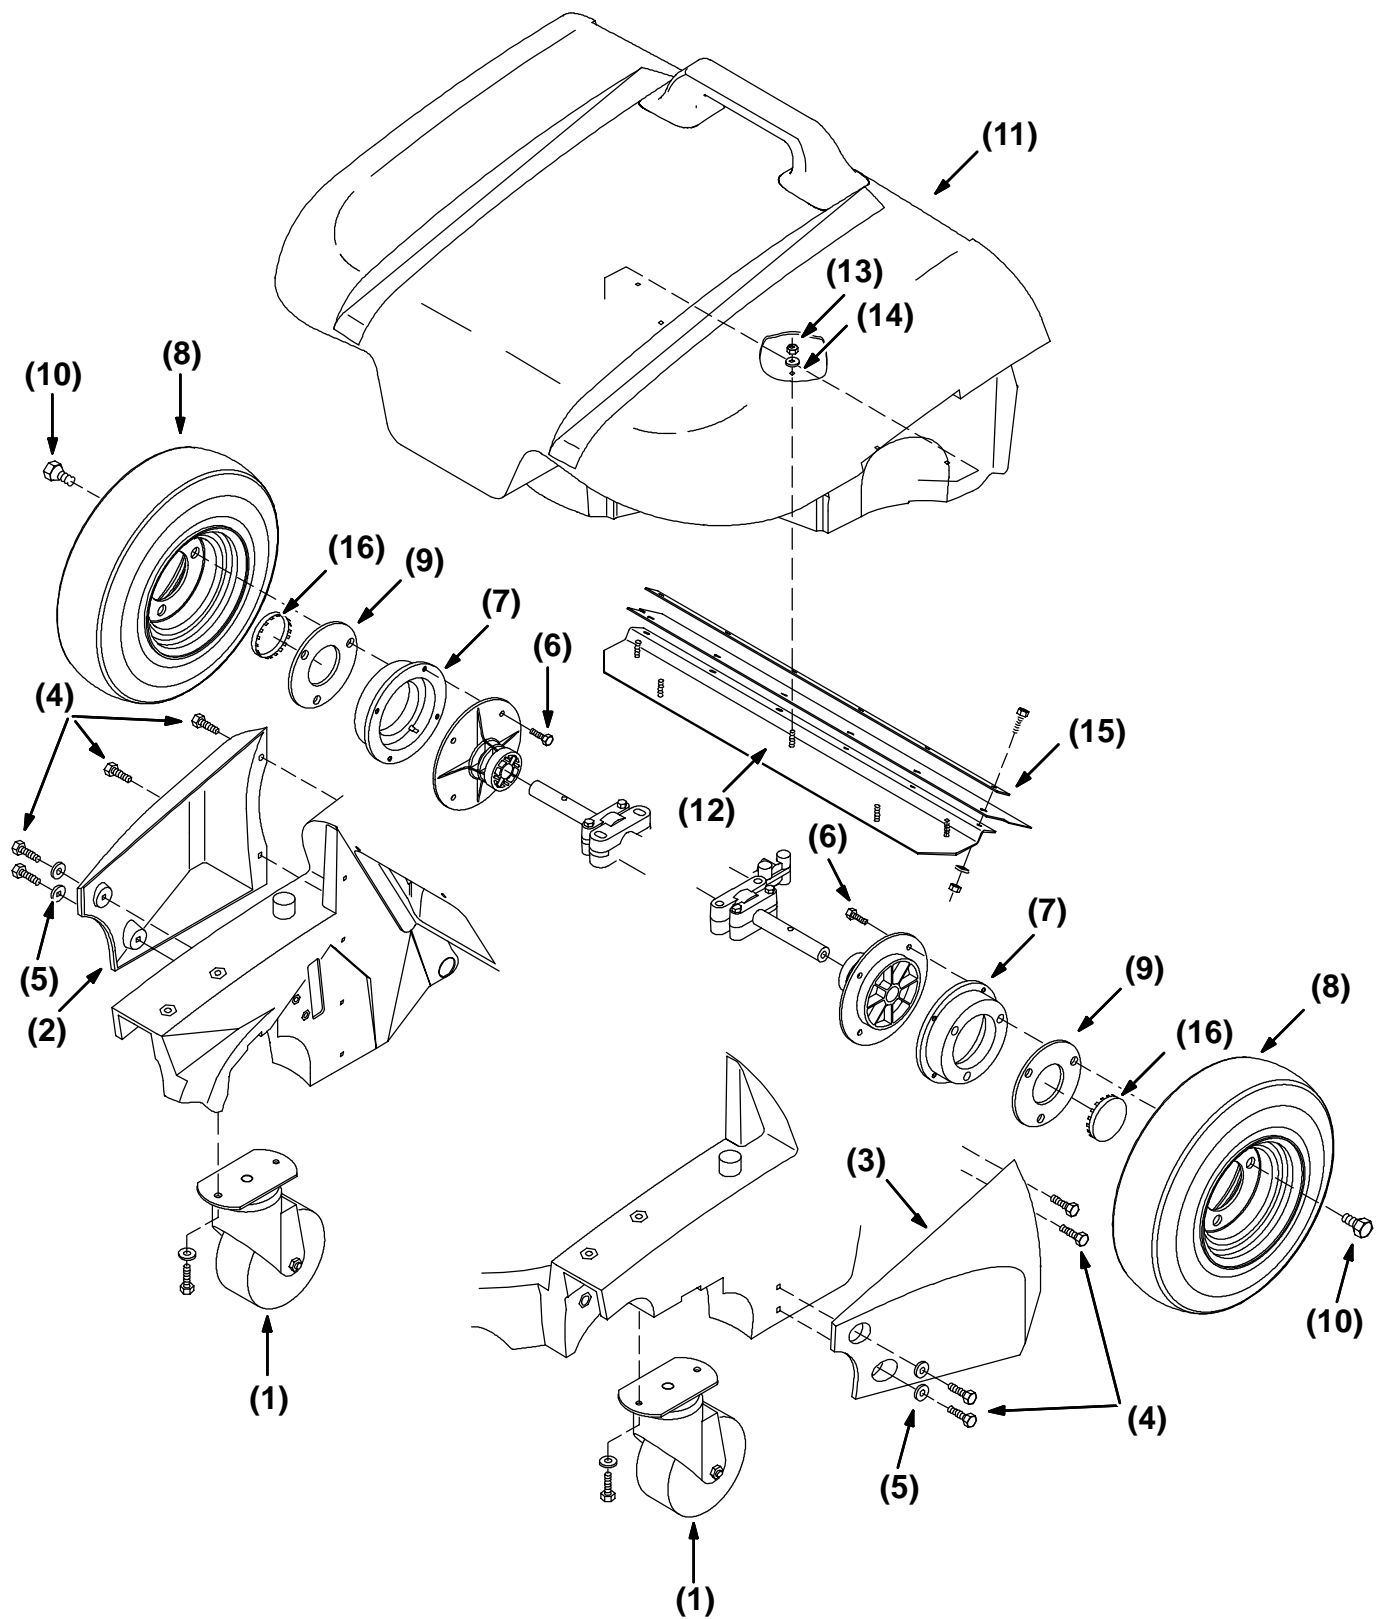

FIG. 4 - Wide Track Wheel Assembly
2. Install the wear plate (12) on the bottom of the new hopper (11). Use the five nuts (13) and five washers (14). Hand tighten tight. (Refer to FIG. 4)
3. Use the hardware removed in step 1 to install the old skirt and new retainer (16) onto the wear plate (12). Hand tighten tight. (Refer to FIG. 4)
6. Install the two new wider casters (1). Re-use the hardware removed in step 5. Tighten to 18 - 24 Nm (15 - 20 ft lb). (Refer to FIG. 4)
11. Position the new wheel adaptors (7) onto the plastic hubs. Use the new hex screws (6) to attach the plastic hub to the adaptor (7). Place a small amount of thread adhesive (18) on the threads of the hex screw (6). Tighten to 7.6 – 9.9 Nm (5.6 – 7.3 ft lb) (Refer to FIG. 4)
12. Position the new plate (9) on the side of the wheel adaptor (7) opposite the plastic hub. Line up the three holes in the plate (9) with the three holes in the adaptor (7). (Refer to FIG. 4)
13. Position the new tire and rim assembly (8) on top of the adaptor (7) and plate (9). Line up the three holes in the tire rim (8) with the three holes in the plate (9) and adaptor (7). (Refer to FIG. 4)
14. Install the three lug bolts (10) in each tire rim. Tighten to 90 - 117 Nm (65 - 85 ft lb). (Refer to FIG. 4)
15. Install the tire/adaptor/hub assembly back on the axle. Make sure the pin in the axle lines up with the cross slot in the plastic hub. Reinstall the flat head screw and spacer washer that was removed in step 9. Place a small amount of thread adhesive (18) on the threads of the flat head screw. Tighten to 18 - 24 Nm (15 - 20 ft lb). (Refer to FIG. 4)
16. Install the plug buttons (17) in the centers of the new wheel assemblies (8). Remove the blocks and lower the machine to the floor. (Refer to FIG. 4)